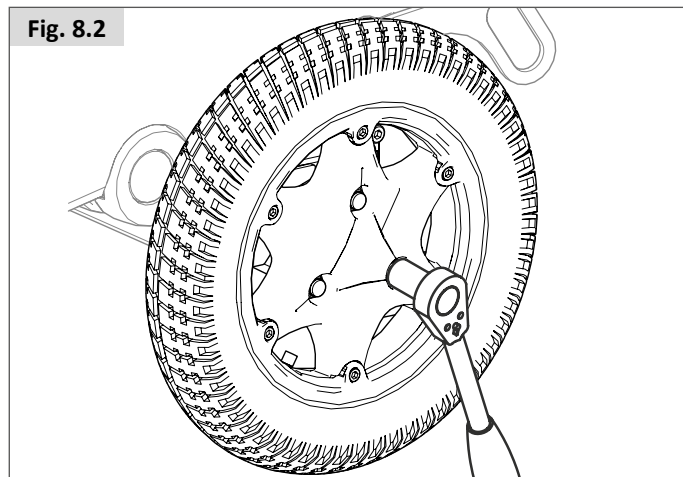

Fig. 8.7
- Lift the tyre and tube off the outer rim, (Fig.8.7).